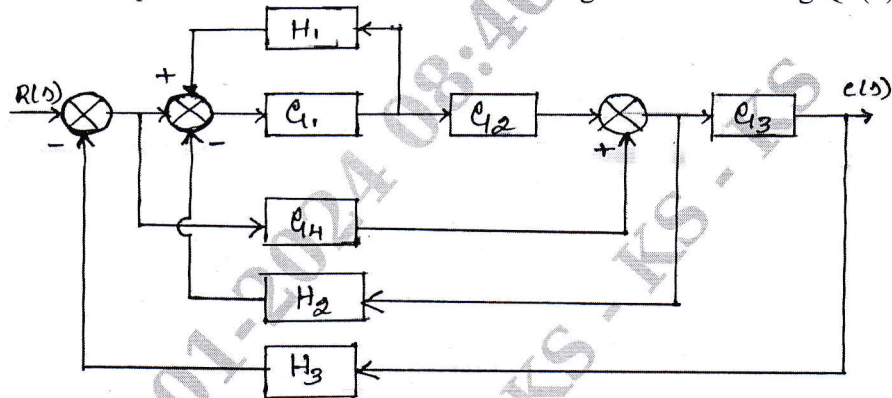

Fig.Q5(b)
b. Develop a closed loop transfer function for the block diagram shown in Fig.Q5(b).